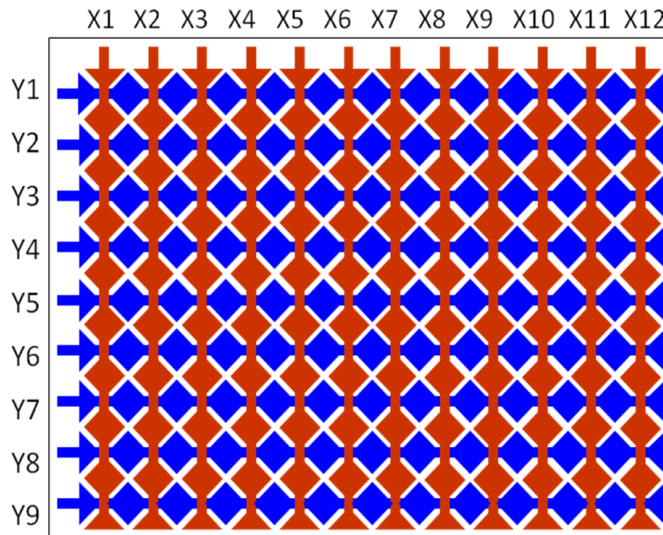

Figure 5 : 12 X-axis and 9 Y-axis Combined Sensor Example
- Figure 5 : 12 X-axis and 9 Y-axis Combined Sensor Example.....6*